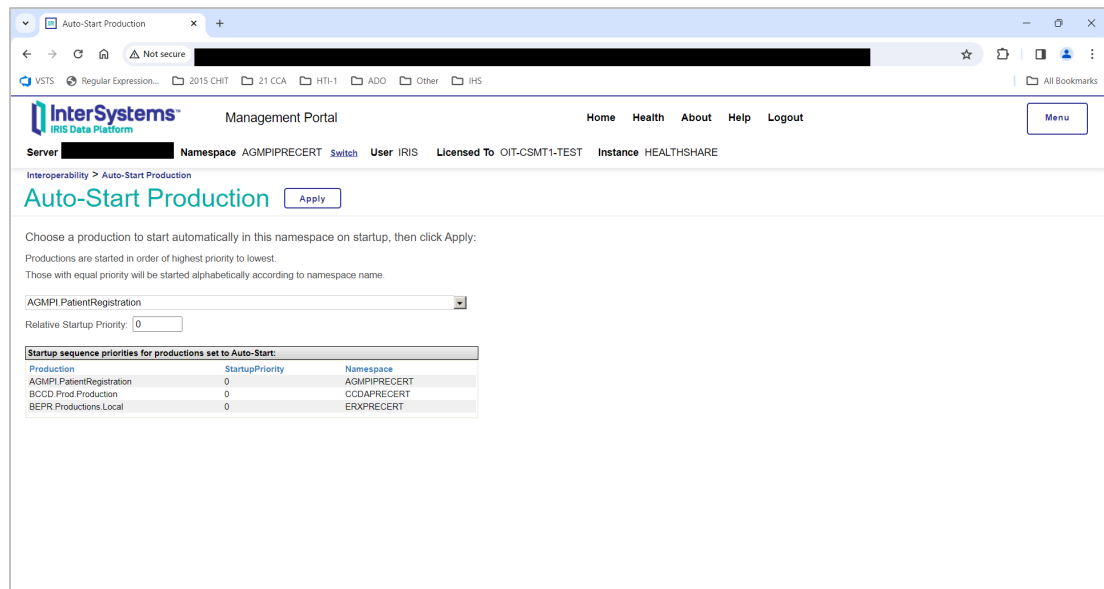

Figure 8-5: Auto-Start Production page
- On the **Auto-Start Production** page, select AGMPI.PatientRegistration from the list as shown in Figure 8-5. The **Relative Startup Priority** may be left with the default value. Click the **Apply** button to save the setting.